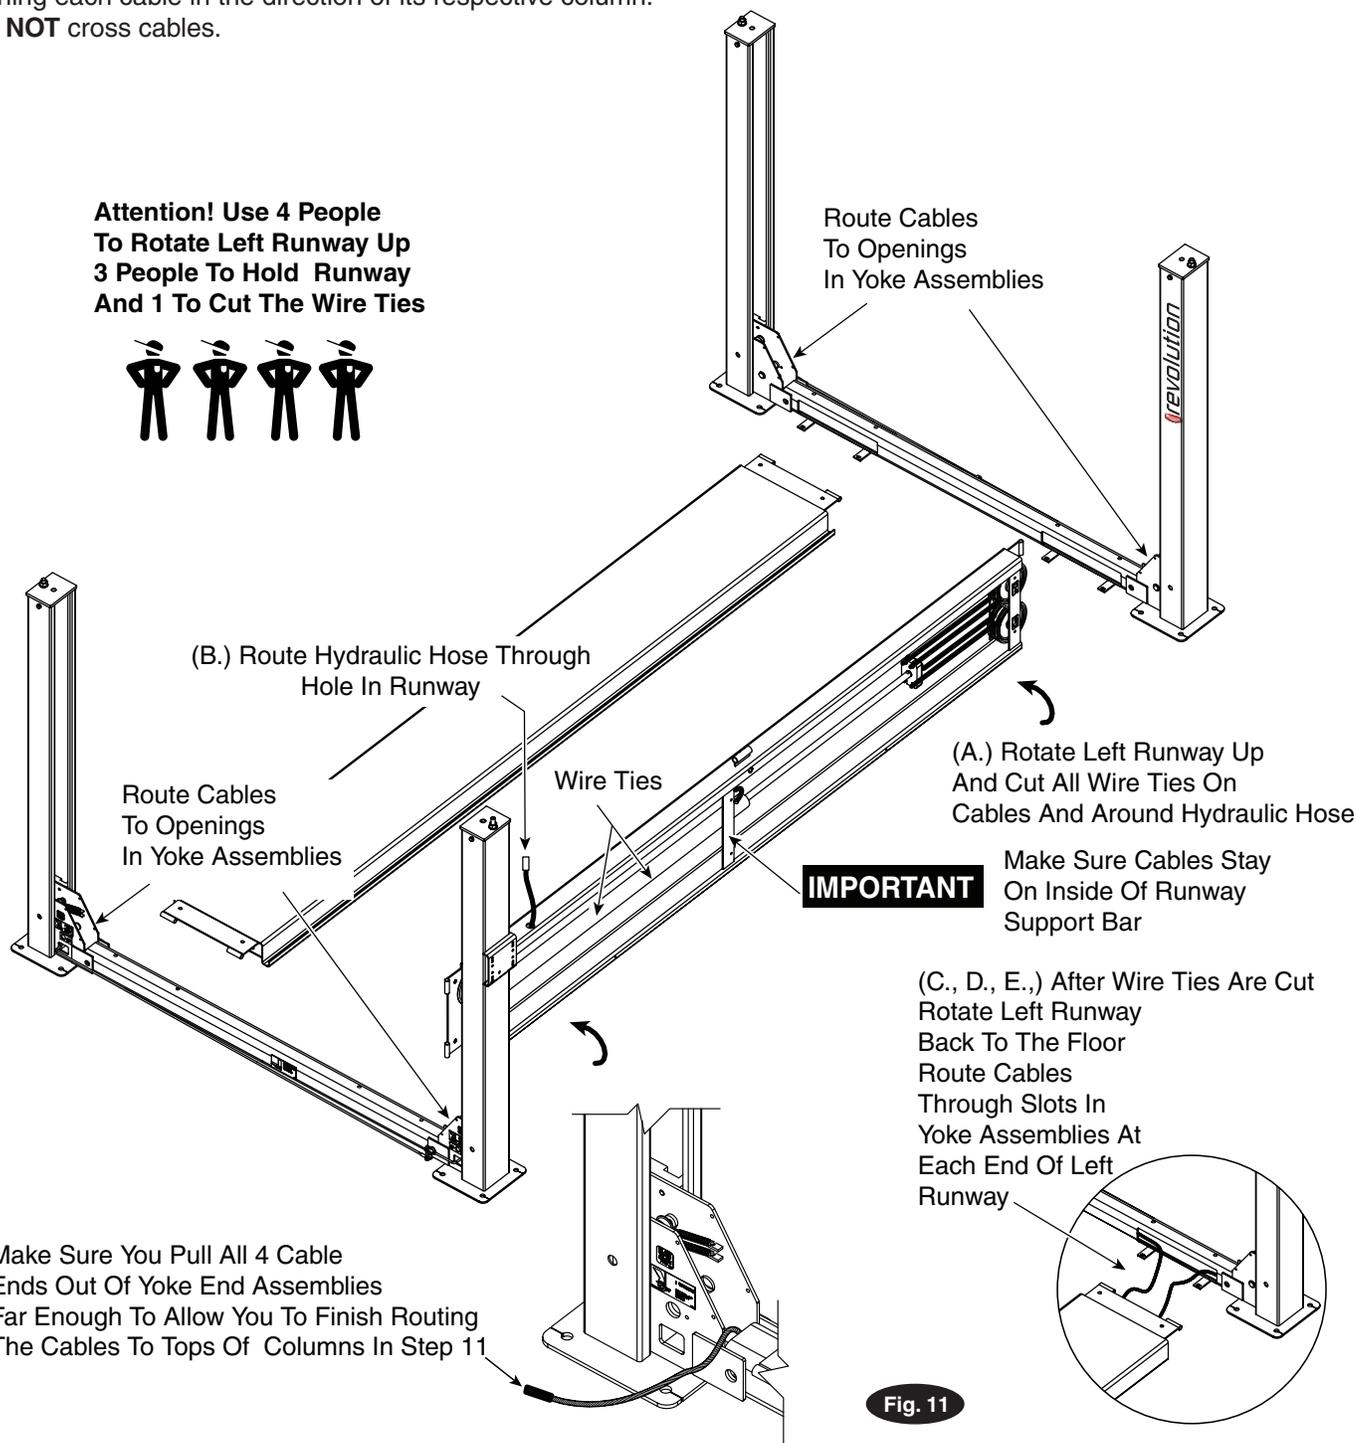

Fig. 11
- A.) Rotate Left runway as shown in Fig. 11 and cut wire ties from cables and hydraulic hose.
- B.) Route hydraulic hose up through hole in runway, Fig. 11.
- C.) Route Cables out of ends of left Runway, Fig. 11.
- E.) Route cables through slots in yoke assemblies, Fig. 11, running each cable in the direction of its respective column. **DO NOT** cross cables.